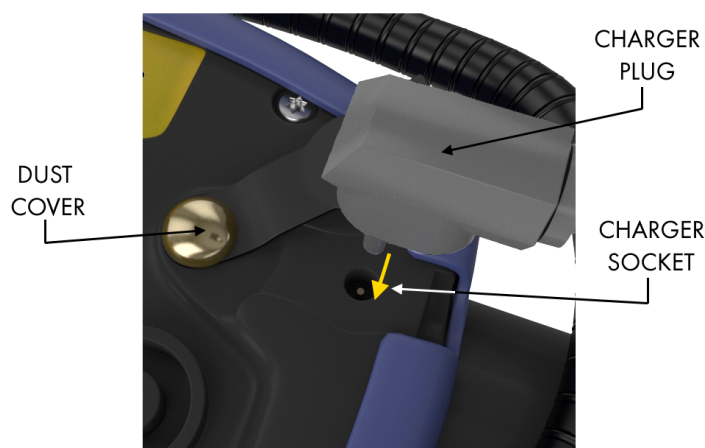

Figure 59: Connect Charger to Monitor
1. Lift dust cover from charger socket on rear of monitor. Connect charger plug, as shown in Figure 59: Connect Charger to Monitor.